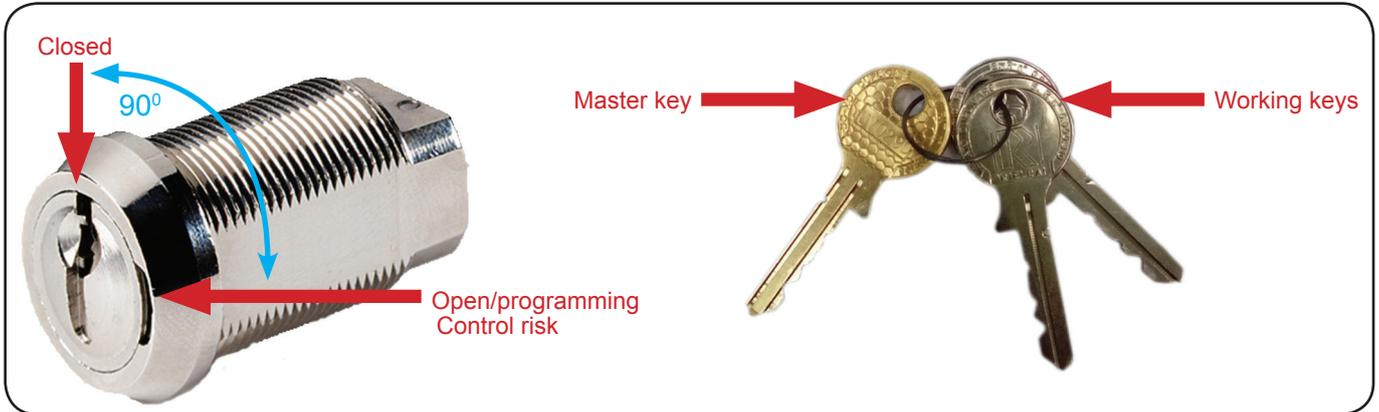

Fig.6.33 - Lock RIELDA
The lock comes complete with three keys (fig.6.33):
- Operating position (“closed” position - fig.6.33);
- Position for the programming (the “open” position - fig.6.33).
- Insert the master key lock (“closed” position - fig.6.33) in which the castle was the last time that programmed or is supplied with a lock (for primary programming). Lock master key in the lock at least one second. Then turn 90 degrees in the direction of the control key risk.
- Then turn the master key 90 degrees in the opposite direction (the “closed” position -fig.6.33).